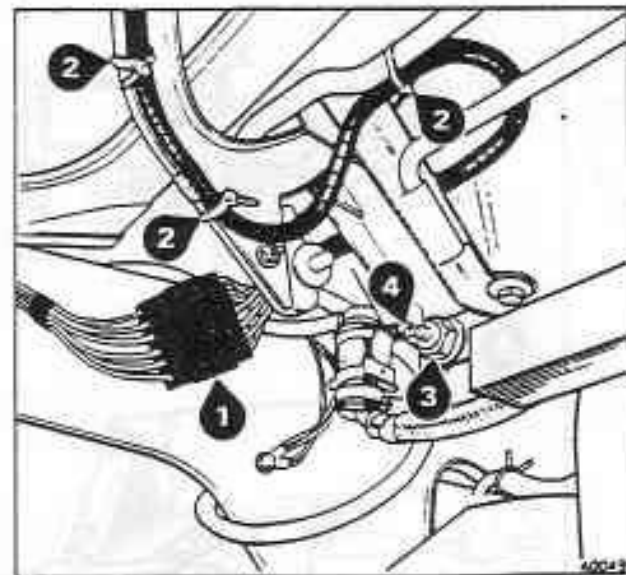

Fig. S13-2 Left-hand hinge mounting
4. Disconnect the loom connectors (see fig. S13-2, item 1) situated in the hinge mounting area and manoeuvre them clear of the hinge mounting brackets.
5. Cut the cable ties securing the looms to the luggage compartment lid hinges (see fig. S13-2, item 2). Discard the ties.
2. Release the lock-nut and remove the luggage compartment lamp switch from its mounting bracket situated on the left-hand hinge (see fig. S13-2, item 3). Note the number of spacing washers between the mounting bracket and the switch.
4. Remove the setscrews and washers that secure the hinges to the body. Note that a bracket is secured under one of the setscrews on the left-hand hinge (see fig. S13-2, item 4).